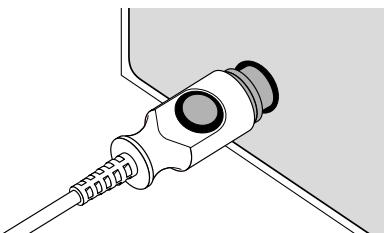

Figure 15. Cable connect to EFM
3. Connect the reusable INTRAN® PLUS interface cable to the uterine activity port of the fetal monitor (Figure 15).